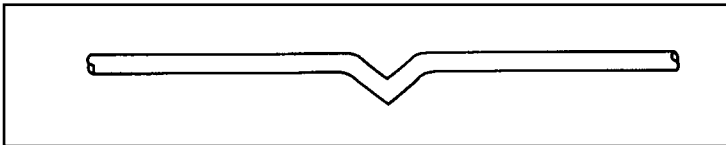

Figure 2
- A kink in the cable. See Figure 2.